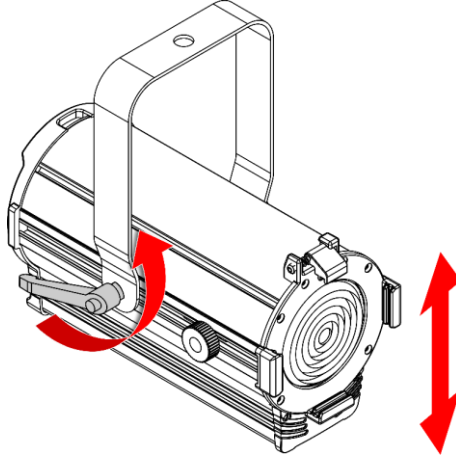

Fig. 08
- 01) Turn the **adjustment handle (06)** counterclockwise to release it.
- 02) Tilt the device at the desired angle (see Fig. 08).
- 03) Turn the **adjustment handle (06)** clockwise to tighten it. Make sure that the device cannot move freely after the **adjustment handle (06)** is tightened.